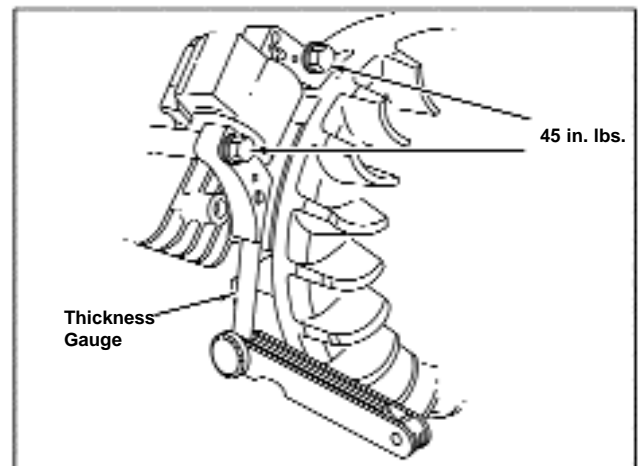

Figure 69 - Magnet Under Armature
- Tighten both screws to 45 in. lbs.(52 kgcm/kpcm). See Figure 69.